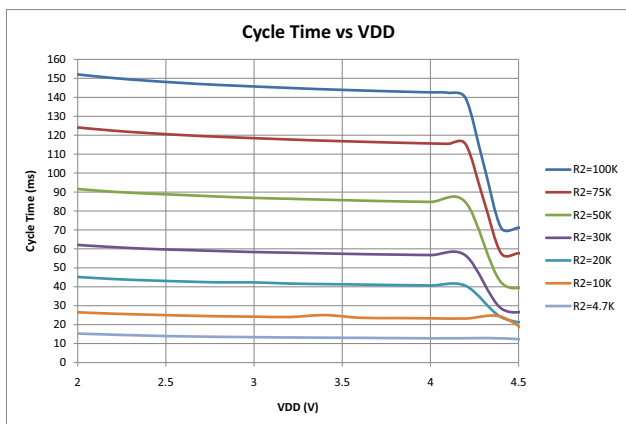

Figure 6. Cycle Period vs. V_{DD}
1. Max column also applies to $V_{DD} > 3.6 \text{ V}$. See Figure 6.
- Updated Figure 1 and Figure 6.